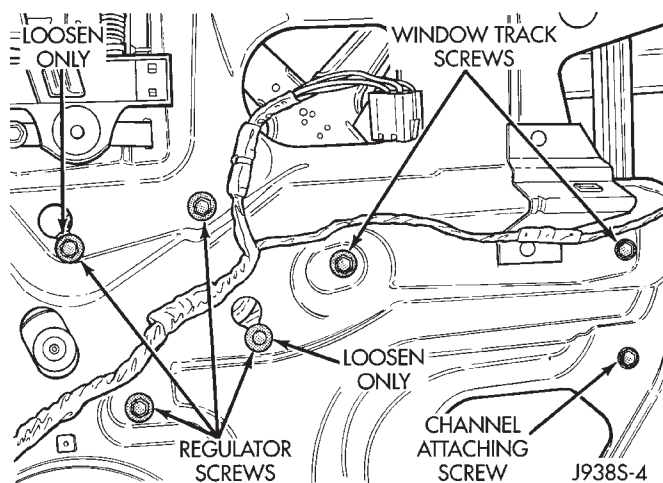

Fig. 9 Rear Door Window Regulator
- (4) Remove 4 window regulator retaining screws (Fig. 9).
- (5) Remove 2 door track screws (Fig. 9)
- (6) Lift window upward and separate it from regulator. Support window.
- (7) Remove window regulator from door.